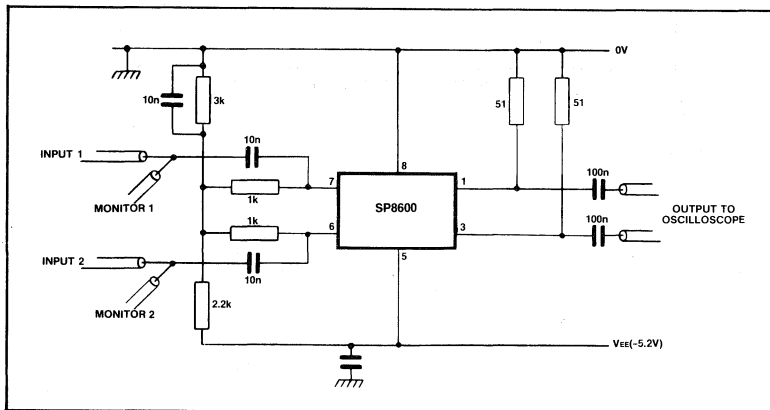

Fig.5 Test circuit
2. The dynamic test circuit is shown in Fig. 5.
1. The input is normally AC coupled to one of the inputs or, if complementary signals are available, to both inputs. The inputs require an external bias as shown in Fig.5.